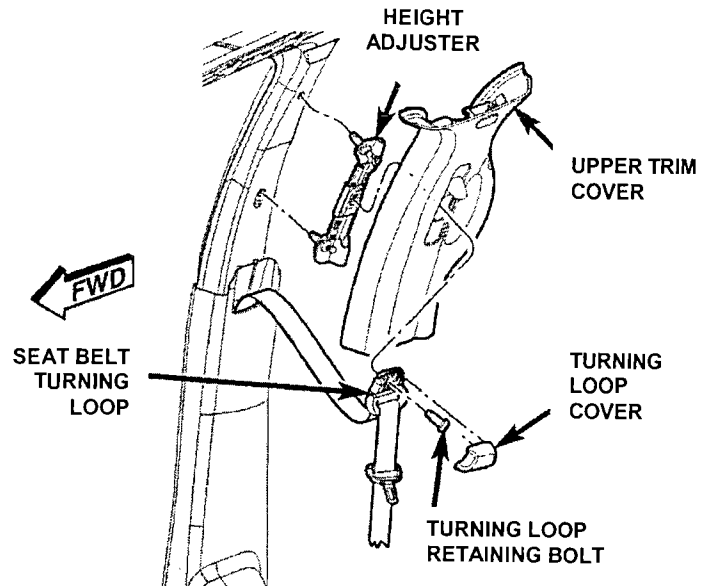

Figure 1
5. Remove and discard the turning loop cover (Figure 1).
6. Remove the turning loop retaining bolt (Figure 1).
7. Remove the upper trim cover (Figure 1).
26. Install the upper trim cover (Figure 1).
27. Apply three or four drops of Mopar Lock & Seal thread locking compound (P/N 04318031) or equivalent to the bolt threads and install the turning loop retaining bolt (Figure 1). Tighten the retaining bolt to 29 ft. lbs. (39 N·m).
28. Install the new turning loop cover provided with the seat belt (Figure 1).